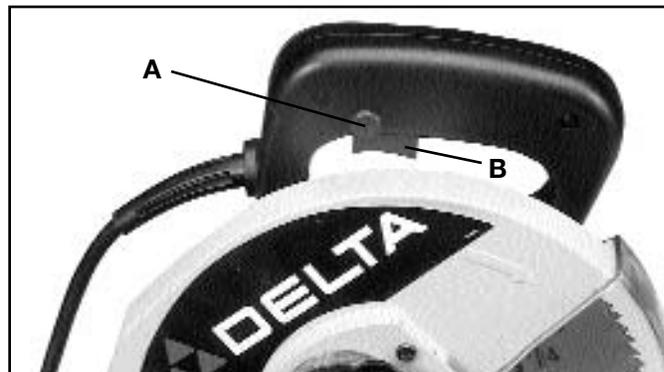

Fig. 12
To turn the saw “ON” push in on switch lock key (A) Fig. 12, and depress switch trigger (B). To turn the saw “OFF” release switch trigger (B).
To lock the switch (B) Fig. 12, in the “OFF” position, pull or gently pry out and remove switch lock key (A) from saw handle.
To activate the switch (B) Fig. 12, insert switch lock key (A) firmly back into handle.